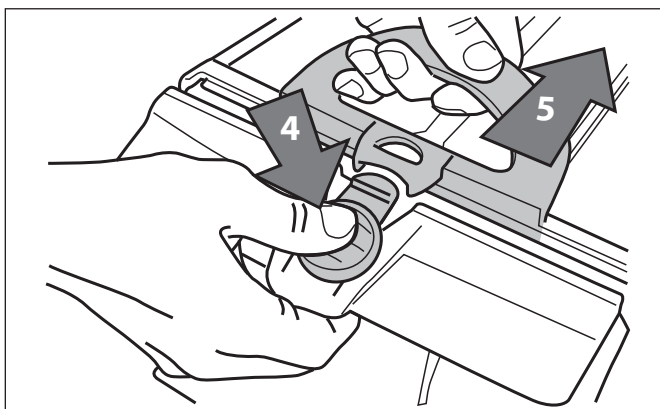

Figure 26. Open Filter Assembly
7. Push the quick release button on the canister assembly (4) and pull open the filter assembly (5). Refer to Figure 26.